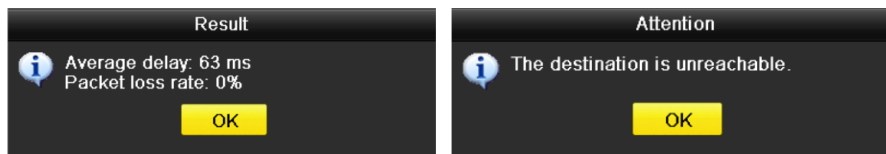

Figure 11-25 Testing Result of Network Delay and Packet Loss
Step 4 Click **Test** button to start testing network delay and packet loss. The testing result pops up on the window. If the testing is failed, the error message box will pop up as well. Refer to Figure 11-25.